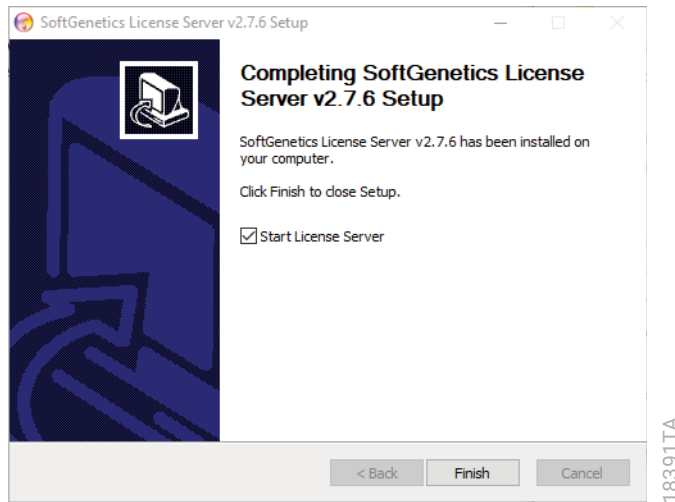

Figure 31. 'Completing SoftGenetics License Server [vX.x.x] Setup' window.
14. Select **Finish** in the 'Completing SoftGenetics License Server [vX.x.x] Setup' window (Figure 31).